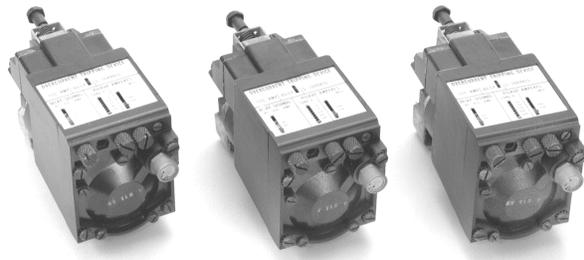
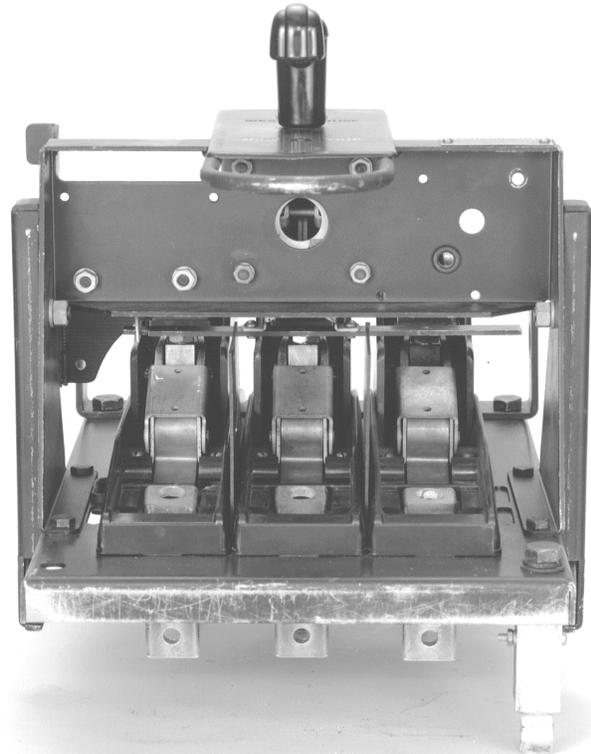

Figure 4. Westinghouse electromechanical trip units removed from the breaker.
Figure 5. DB-15 breaker disassembled and ready for conversion.
4. Remove and discard the three electromechanical trip units, shown in Figure 4. The disassembled breaker is shown in Figure 5.